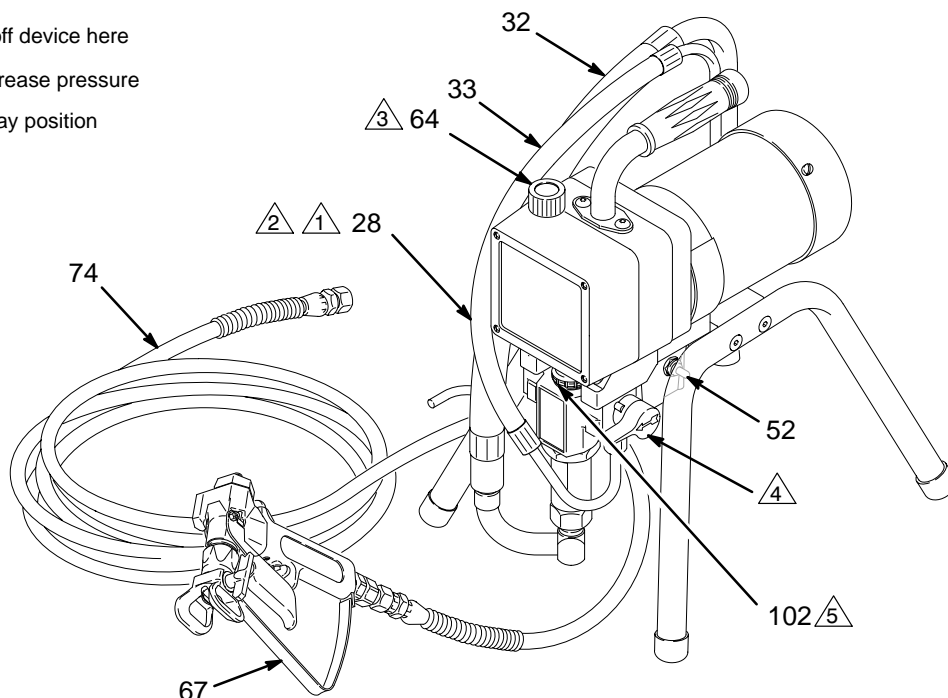

Fig. 2
3. Never install any shutoff device between the filter and the hose. See Fig. 2.
NOTE: Refer to Fig. 2 and the other figures referenced in the text as you start the sprayer.